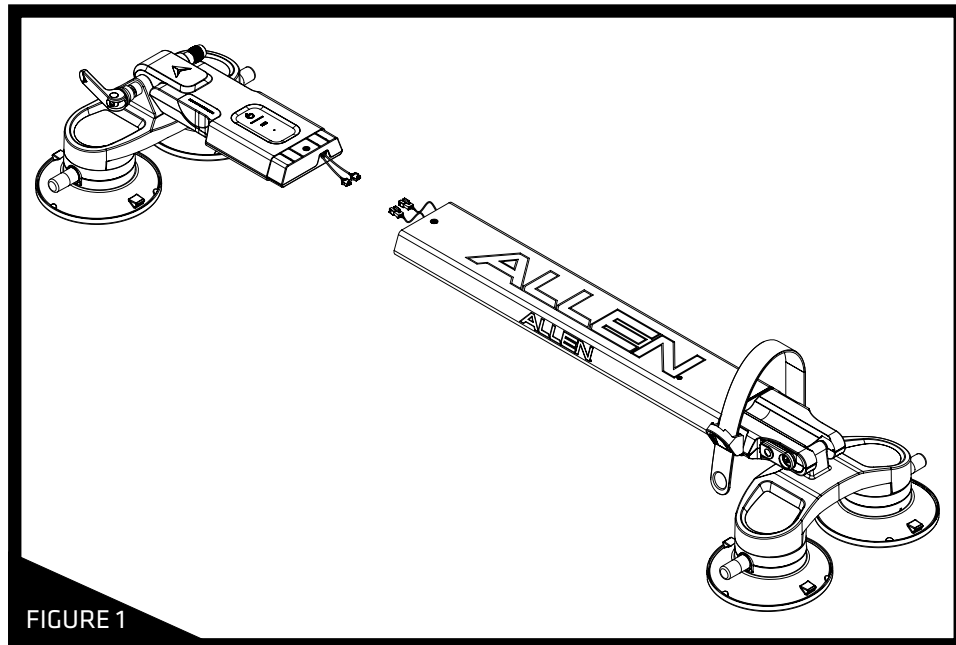

FIGURE 1
**STEP 1:** Lay out the Front Unit Assembly and the Rear Unit Assembly as pictured in **Figure 1** so the ends are parallel. Confirm that the cable connectors are exposed out of the rear section of the device.